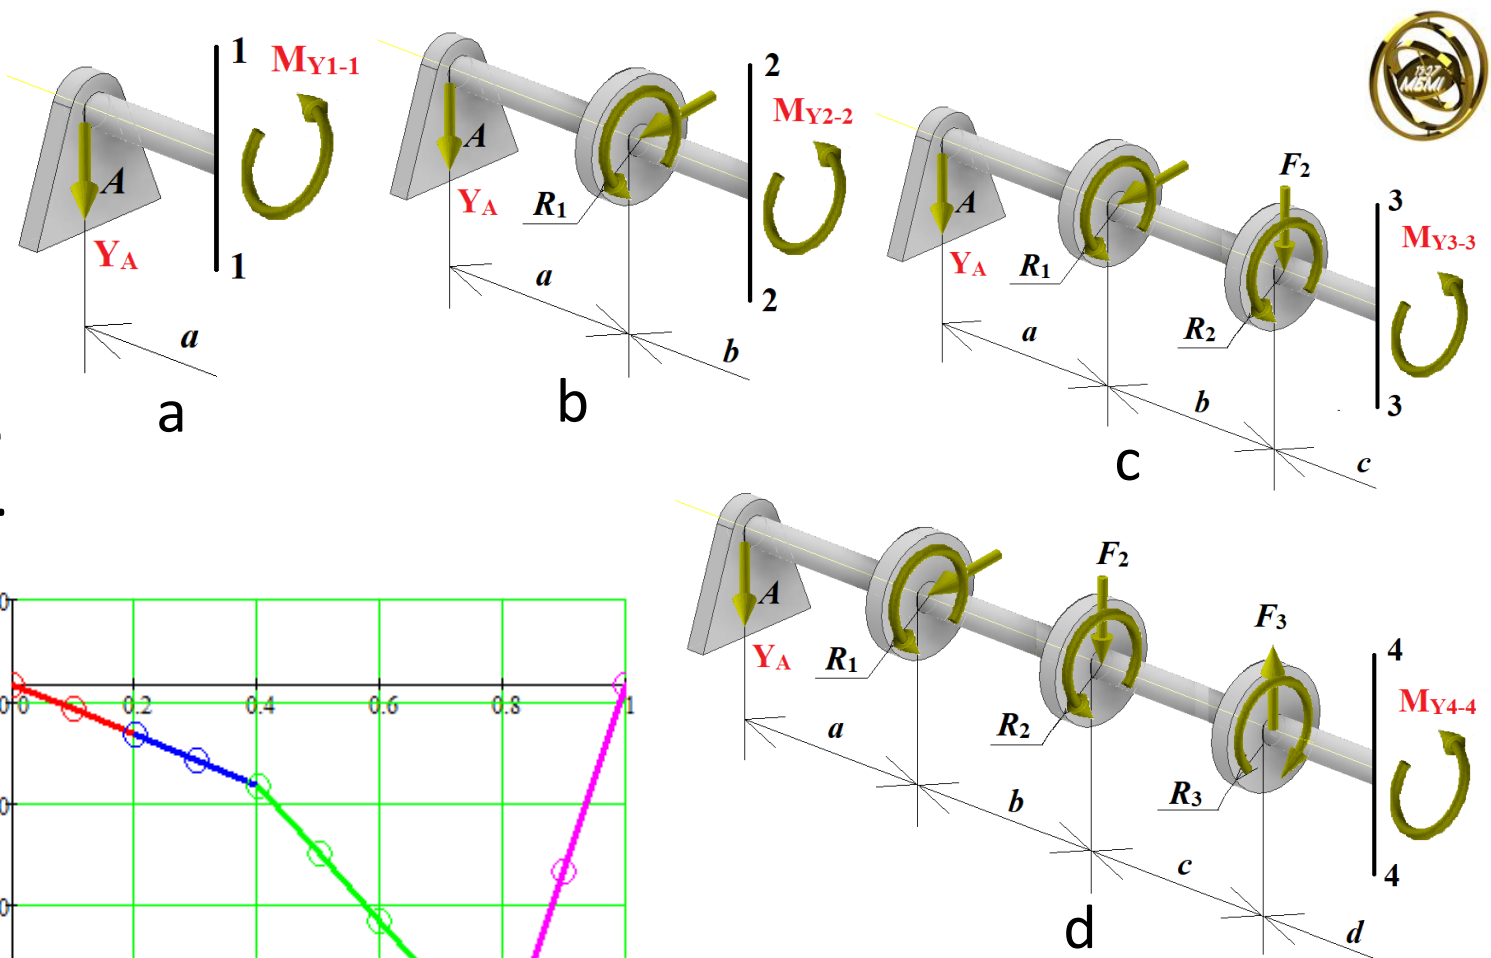

Fig. 7 – Calculation schemes for bending moments in **XY plane**
7. Calculate bending moments in the **XY plane** using the schemes in **Fig. 7**.